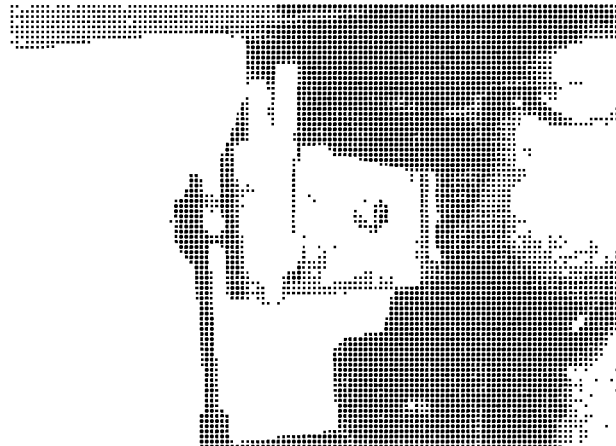

FIGURE 1.
**NOTE:** During the manufacturing process on manual seats without an up-stop mechanism, a plastic tie-strap is used to keep the seat height springs compressed (See FIGURE 1). Once the seat is assembled, this tie-strap must be removed to allow adjustment of the seat height. Before performing the following procedures, inspect the seat being modified and verify that the tie-strap has been removed. If necessary, remove the tie-strap.